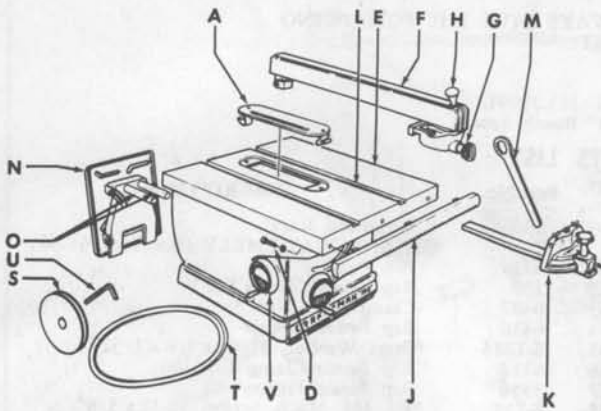
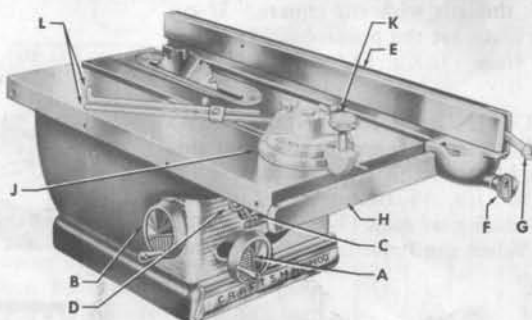

Figure 2
Figure 3
Your saw is shipped with the following loose parts wrapped separately and packed in same carton with the saw (see figure 2): Rip fence rack (J), three screws and lock washers (D), rip fence (F), miter gage (K), motor mount (N), motor pulley (S), V-belt (T), arbor nut wrench (M), Allen wrench (U), handwheel assembly (V), and motor mounting hardware. Thoroughly clean the saw and these loose parts with a dry cloth. Remove the rust-preventative coating on the saw table by wiping it off with a cloth soaked in kerosene.
CHECK ARBOR NUT — Check tightness of saw arbor nut (Key No. 10, fig. 1), using wrench (M, fig. 2).
ALIGN SAW BLADE WITH TABLE GROOVES — Using elevation hand wheel (A, fig. 3), set saw blade for deepest cut. Make pencil mark on tooth that is just above table top at front of
blade. Measure distance from this tooth point to right-hand table groove (L, fig. 2). Rotate blade by hand to place this same tooth just above table top at rear — then again measure distance from tooth point to right-hand groove. The two measurements must be exactly equal. If not, loosen the three screws (Key No. 84, fig. 1) in each trunnion which secure the table trunnion (Key No. 83, fig. 1) to the table. Shift the two trunnions until the two measurements are equal, then retighten the screws. Again check measurements.
INSTALL RIP FENCE — Secure the rack (J, fig. 2) to the front skirt of the saw table, using the three screws and lock washers (D, fig. 2). Be sure to position rack with gear teeth facing downward — and with top edge of rack parallel with the top of table. Pull the rip fence knob (G, fig. 2) out to permit the guide of the rip fence (F, fig. 2) to slide over rack (J, fig. 2) — then place the rip fence on the saw table as shown in figure 3. A slight pressure must be exerted on the rip fence to cause it to seat properly on the rack. This is necessary because there are two bar alignment springs which act on the inner lip of the rack to hold the fence in continuous alignment. Slide fence along rack, noting clearance between fence and table top. If any part of the fence (other than the sliding pad at the rear) drags on the table top, or if the clearance between fence and table varies appreciably as fence is moved, rack (J, fig. 2) must then be readjusted. This can be done by again loosening screws (D, fig. 2) to reposition the rack.
ADJUSTING RIP FENCE PARALLEL TO SAW BLADE — Place the rip fence next to the right-hand table groove (L, fig. 2) and clamp it in place by pushing down on the cam clamp lever (H, fig. 2). Fence should be perfectly parallel to the groove. If not, loosen the four screws (Key Nos. 70 and 71, fig. 1) which secure the guide to the fence. Align fence with groove — then retighten screws.
ADJUSTING STOP COLLARS — Using the elevation hand wheel (A, fig. 3), set saw blade for deepest cut. Rotate the tilt hand wheel (B, fig. 3) clockwise until further movement is prevented.
See operation of clamp screw handle (D, fig. 3) under Operating Controls. Use a square and check for 90 degrees between the side of the elevated blade and the table top. If the blade is not square with the table top, operate the tilt hand wheel until the pointer indicates approximately 10 degrees on the tilt gage. Loosen the set screws (Key No. 31, fig. 1) on the stop collar (Key No. 32, fig. 1) nearest to the tilt hand wheel. Rotate the stop collar on the tilt screw (Key No. 35, fig. 1) to the left or right (whichever is required) an amount necessary to stop the blade square or at 90 degrees to the table top. Tighten the two set screws and rotate the tilt hand wheel clockwise until further movement is prevented. Recheck the blade for squareness. Several slight adjustments may have to be made to the stop collar before the blade is square with the table top.
MOUNTING THE MOTOR—Mount the motor (see Motor Specifications) to the motor mount assembly (N, fig. 2)—then mount the motor support assembly to the saw by sliding the two pins (O, fig. 2) into the mounting holes at the rear of the cradle. Place pulley (S, fig. 2) on the motor shaft, line it up with the pulley on the saw arbor, then tighten the pulley set screws. Install V-belt (T, fig. 2) over pulleys and adjust the belt tension by moving the motor support assembly towards or away from the cradle. Motor should be allowed to rest or hang against the belt to obtain the automatic belt tightening feature—and belt should be snug. If adjustment is correct, clamp the motor support in place by tightening the two hex. head machine screws (Key No. 115, fig. 1) which are packed in the envelope in the loose parts carton.
PLACEMENT OF MITER GAGE—The miter gage assembly (K, fig. 2) can be used in either one of the two table grooves.
The following controls should be tested until the operator is thoroughly familiar with their uses. See figure 3.
ADJUSTING TILT GAGE — Using an accurate square, set saw blade at right angles to table top. Then adjust the pointer on the tilt gage (C, fig. 3) to "0".
ADJUSTING MITER GAGE SCALE — Using an accurate square, block the miter gage at the square position. Make a trial cut on a fairly wide board, then check this cut with the square. If cut is accurate, set the pointer on the miter gage scale (J, fig. 3) to "90".
ADJUSTING CAM CLAMP LEVER — If clamping action of lever (H, fig. 2) is too tight or too loose, it can be adjusted by increasing or decreasing the effective length of the rip fence clamp rod (Key No. 78, fig. 1). This is done by readjusting the clamp rod nut (Key No. 63, fig. 1) on the end of the clamp rod in back of the fence. When properly adjusted, the clamping lever should lock in a horizontal position or slightly lower.